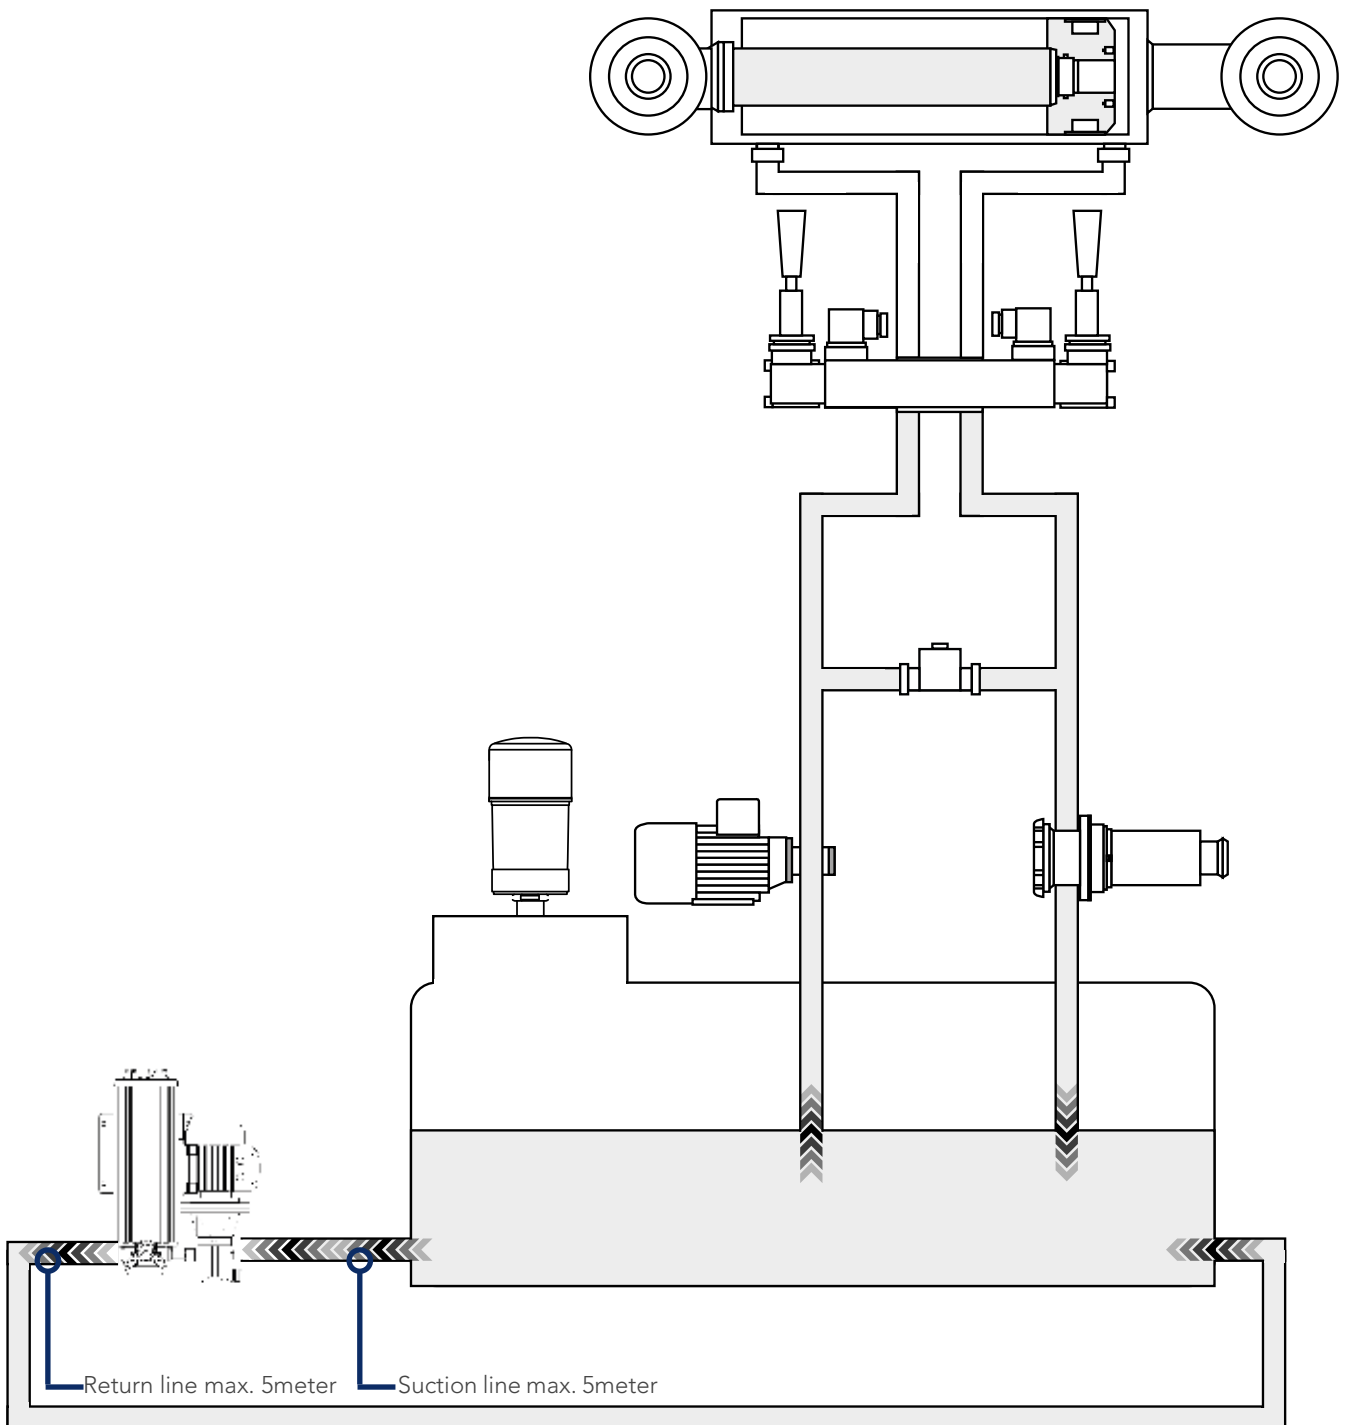

Fig. 3
- ▶ Make sure the point of return on the reservoir is as far away as possible from suction point (Fig. 3).